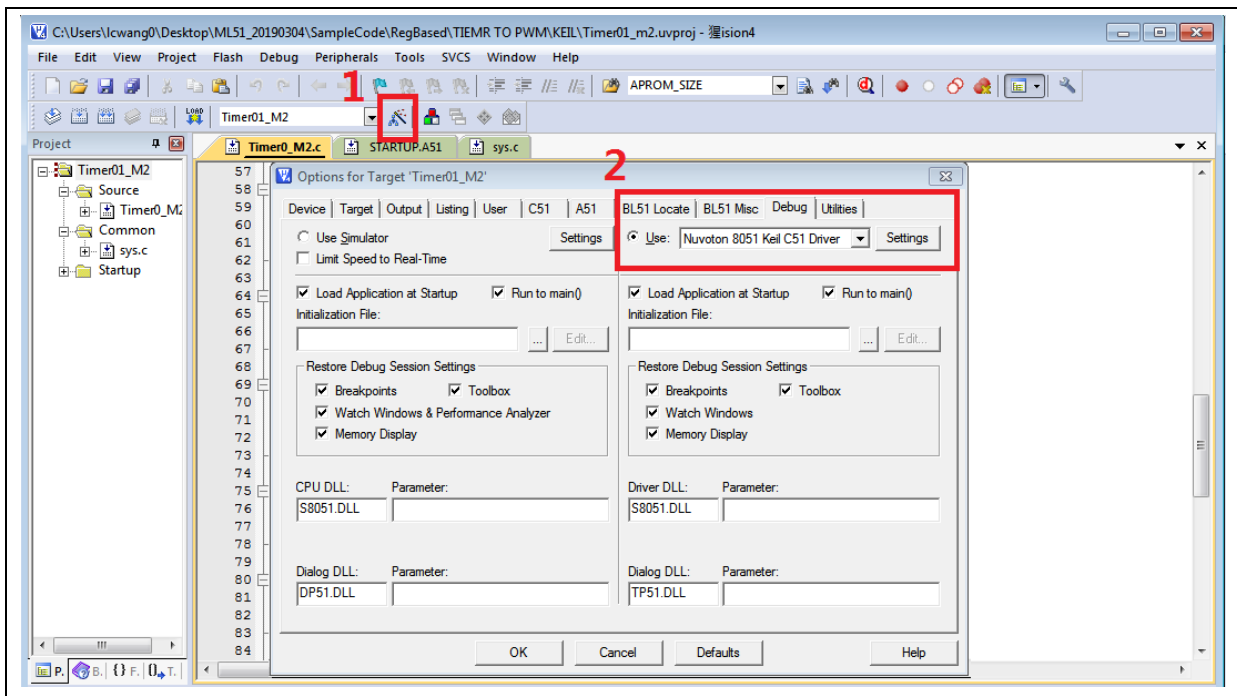
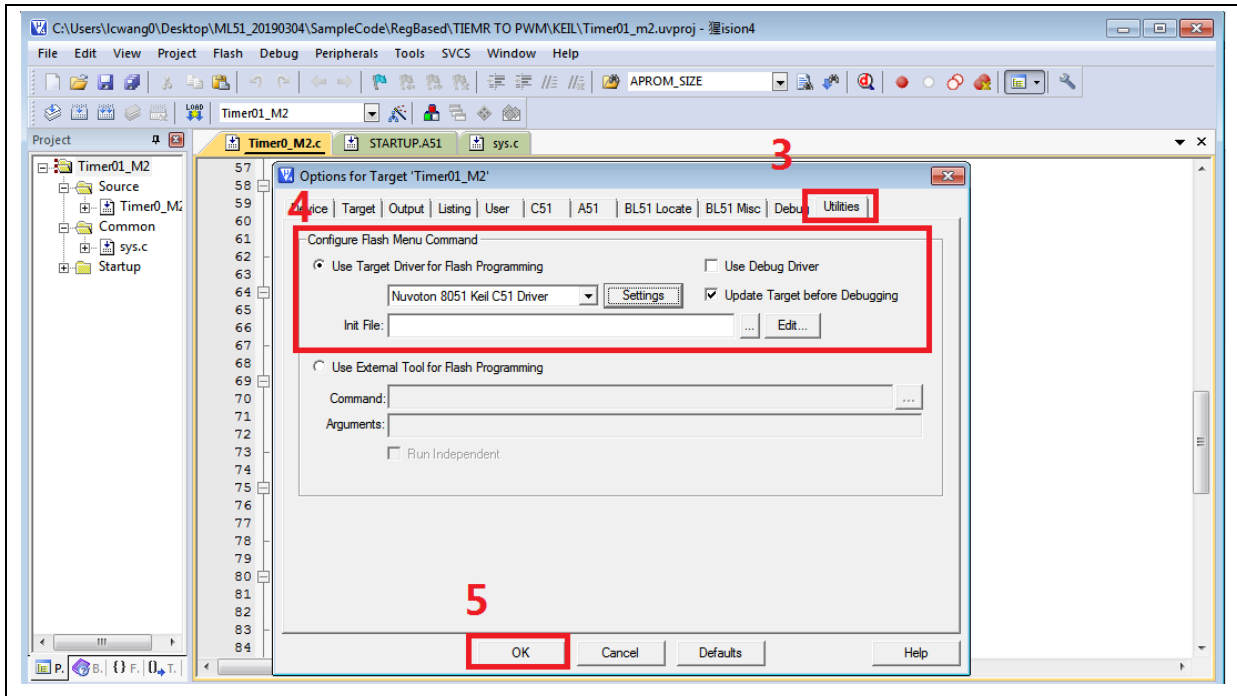

Figure 3.6-2 Debugger Setting in Options Window
Figure 3.6-3 Programming Setting in Options Window
2. Make sure the debugger is “Nuvoton Nu-Link Debugger” as shown in Figure 3.6-2 and Figure 3.6-3.
Note: If the dropdown menu in Figure 3.6-2 does not contain “Nuvoton Nu-Link Debugger” item, please rework section 0.